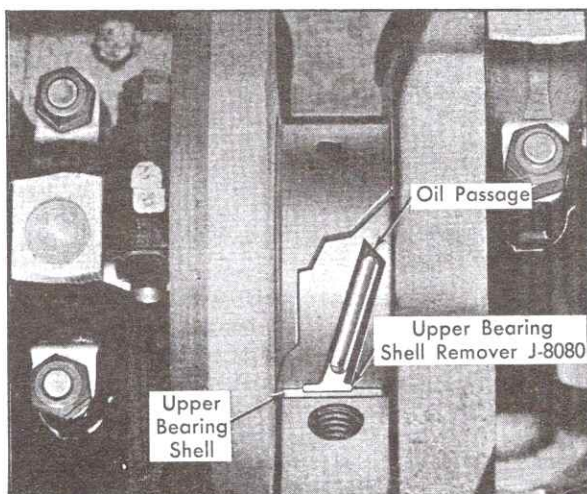

Fig. 6-146 Upper Bearing Shell Removal
5. Install Upper Bearing Shell Remover, J-8080, into oil hole in crankshaft bearing journal, Fig. 6-146.